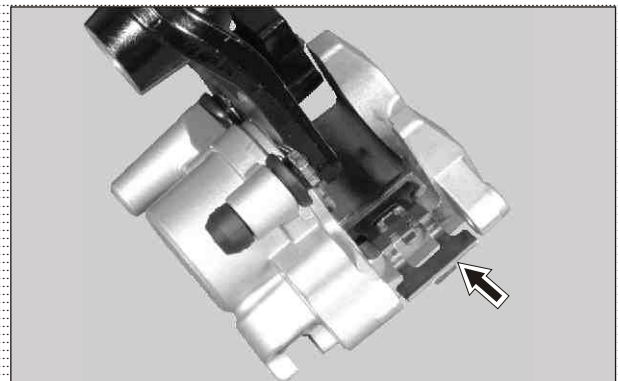

Fig. 6.101
- Remove spring pad from the caliper housing. (Fig. 6.101)